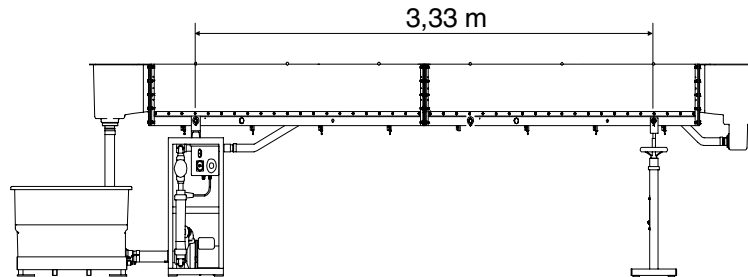

Fig. 2.11
- Mount the bearing pedestals at **intervals of 3.33 m** (Fig. 2.11)
- Lift the bolted segments, using four people, and first mount them in the pump-side pedestal. **Important! For the 5 metre version the inner suspension points of the segment are used!** (see Fig. 2.11)